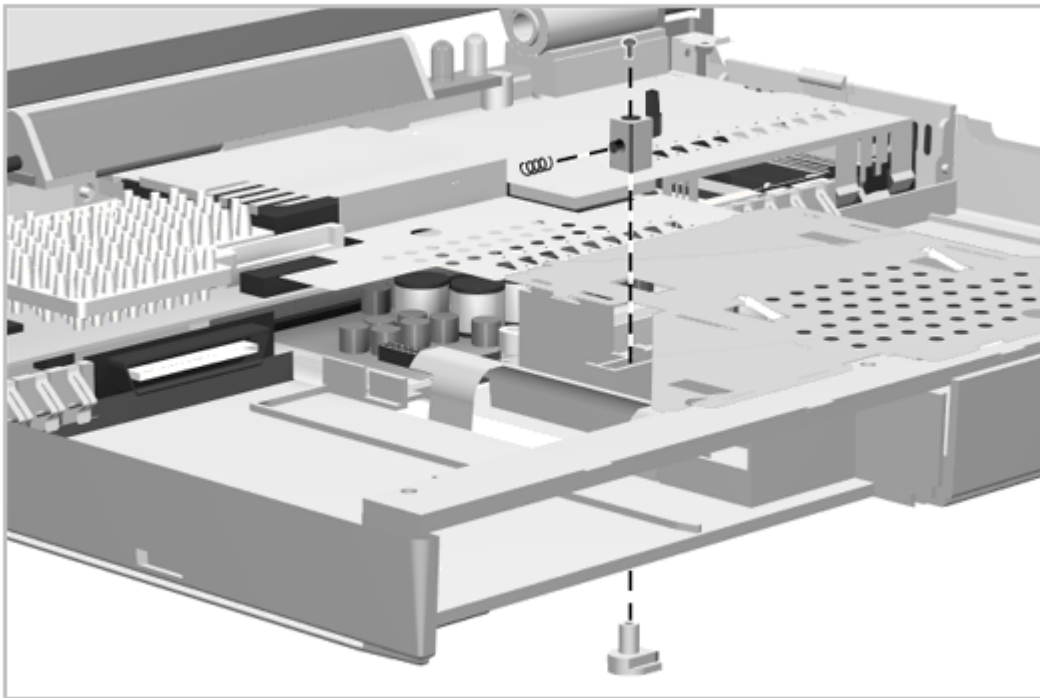

Figure 5-47. Removing the Hard Drive Latch
2. Remove the hard drive security screw (Figure 5-47)
3. Remove the latch screw as shown in Figure 5-47. The release drops out but the spring holds the latch in place. Use forceps or needle-nose pliers to remove the latch and spring.